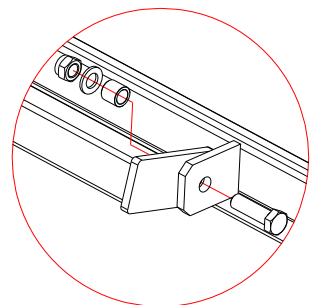

Figure 6.1
1. Attach a cable (1) to the machine.
2. Remove the bolts and nuts (2) with which the machine is bolted to the pallet (3).
6. Mount a towing hook (4) on the machine by means of the supplied bolts, nuts and bushes (Figure 6.1).
7. Subsequently, mount the spindle (5) on the towing hook with the supplied pin and locking pin.
8. Place the receptacle (6) at the back of the machine.